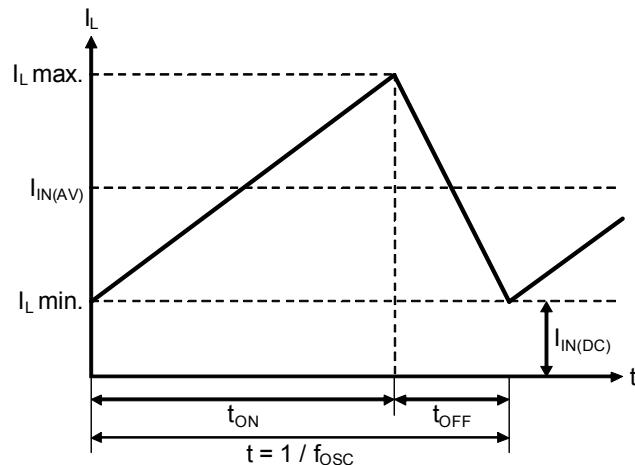

Figure 15 Continuous Mode (Current Cycle of Inductor Current  $I_L$ )
**From Figure 15 :**
Above, the continuous mode is the operation mode when  $I_{IN(DC)} > 0$  as shown in **Figure 15** and the inductor current continuously flows.